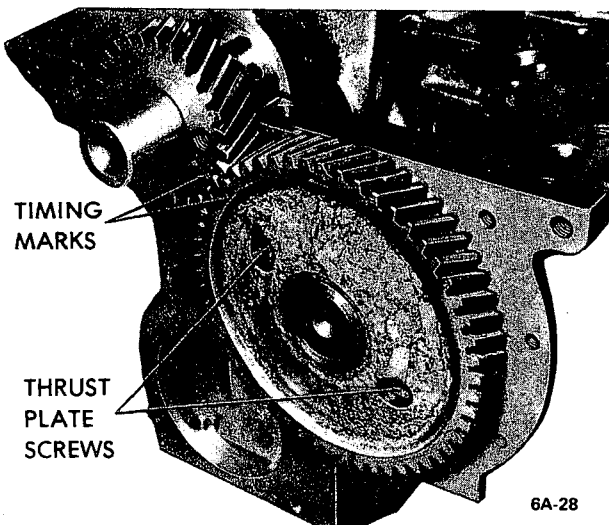

Figure 6A-24 Timing Gear Marks
4. Align timing gear marks then remove the two camshaft thrust plate bolts by working through holes in the camshaft gear. See Figure 6A-24.